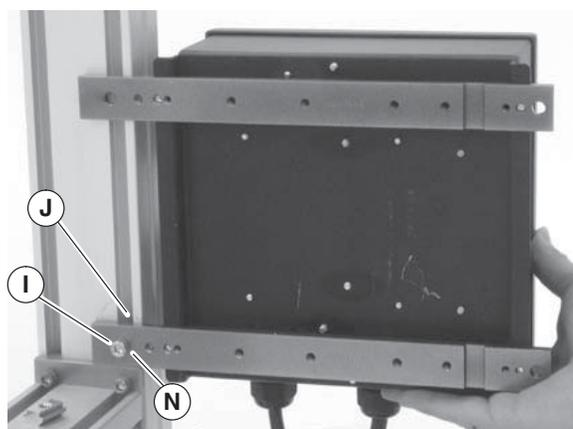

Figure 14
2. Install T-bar (Figure 14, item J) into stand leg T-slot. Attach controller lower mounting bar (N) with screw (I).